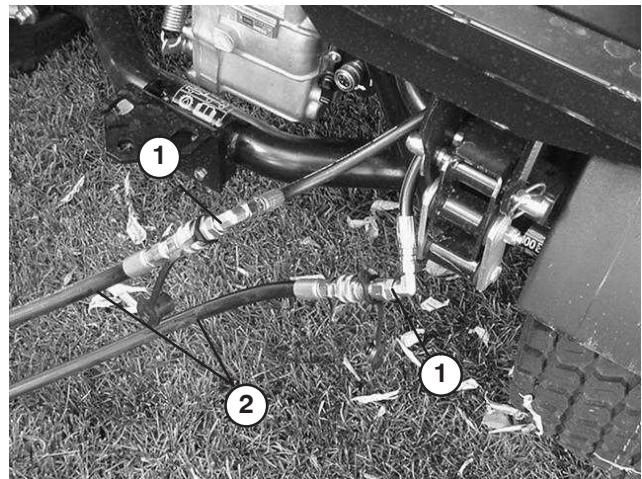

Figure 72
- On the disabled vehicle, connect the two jumper hoses to the hoses that were disconnected (Fig. 72). Cap unused fittings.